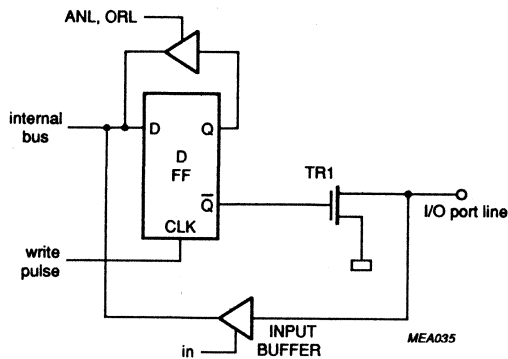

Fig. 15 Open drain I/O without pull-up transistor (option 3).
- **Option 3** OPEN DRAIN I/O WITHOUT PULL-UP; open drain output without pull-up transistor (see Fig. 15). Application as an output requires the connection of an external pull-up resistor.